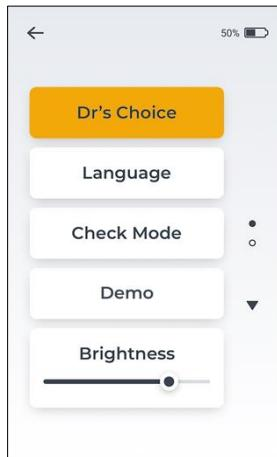
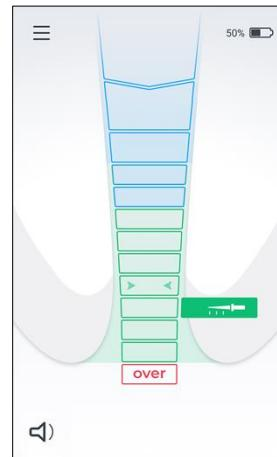

Fig. 12
Fig. 13
- Enter the Settings Menu and tap the Dr's Choice tab – see Fig 12. "Dr's Choice" will turn orange while activated and the Dr's Choice apical line will appear on the screen – see Fig. 13.
- To deactivate Dr's Choice apical line, go to settings menu and turn Dr's Choice off by tapping the Dr's Choice tab – see Fig. 12.